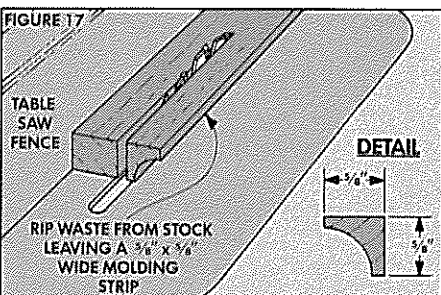

FIGURE 18
CUT THE PIECES. Begin by cutting seven drawer fronts (U) from 4/4 stock to 5 1/4" wide and 1/16" less in length than the distance between the guides, see Fig. 18.
BOTTOM. Now, cut a 1/4"-deep groove for the bottom panel on the inside edge of the sides and front, see Fig. 18.